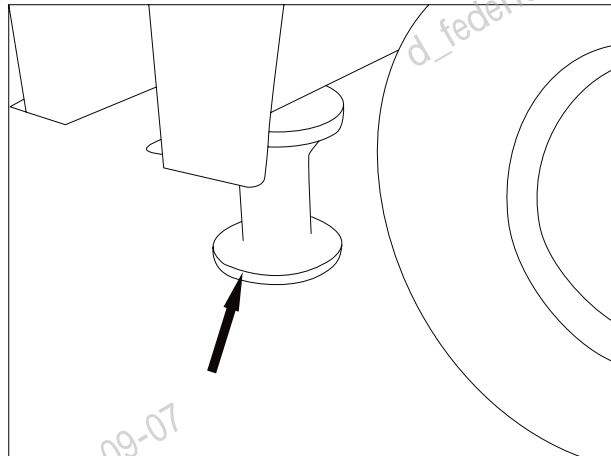

Fig.2-42
- Use boosters like various spanners or plus drive to disassemble connecting parts. See Fig.2-42. For the tightening torque of bolts, see **Table 5-1 on page 5-6 and Table 5-2 and Table 5-3 on page 5-7.**